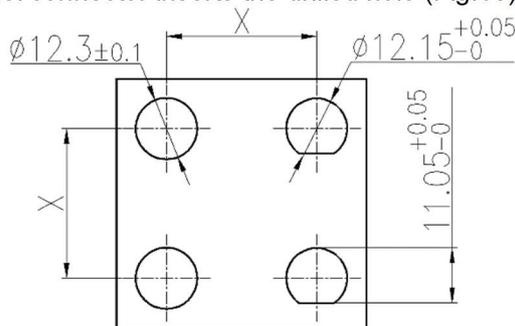

Figure 15
- ✧ 面板钻孔。钻孔的建议尺寸（如图 15），所有钻孔边缘的毛刺需要清除。我们建议，无论水平或垂直结构，间距值（X）至少要有 25mm（如图 15）。
Drill holes at the panel wall. The proposed size of the borehole is shown in Figure 15. We recommend that the spacing value (X) is at least 25mm for both horizontal and vertical structures (Figure 15).